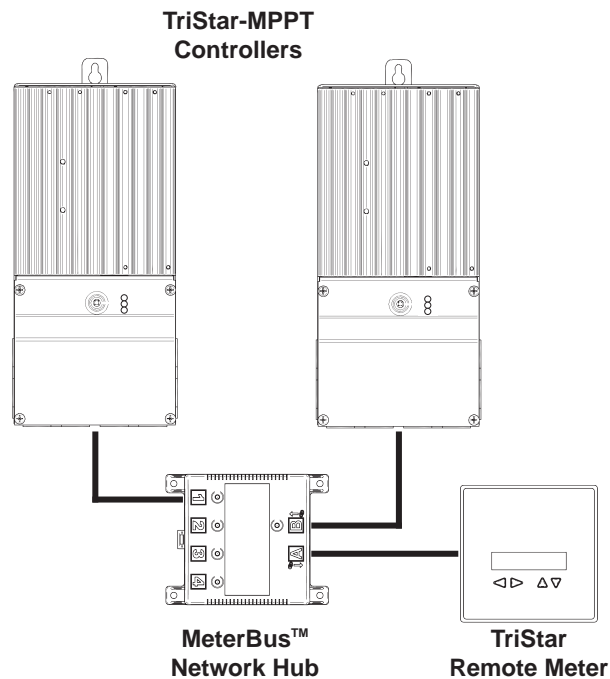

Figure 5-1. An example MeterBus network.
A MeterBus Hub (model: HUB-1) is required for MeterBus networks containing multiple TriStar MPPT 150V controllers. The ports on the hub are electrically isolated to prevent damage in the event of broken grounds or voltage differences between controllers. Figure 5-1 below shows an example MeterBus™ network with two (2) TriStar MPPT 150V controllers and a TriStar Remote Meter 2 (TS-RM2).